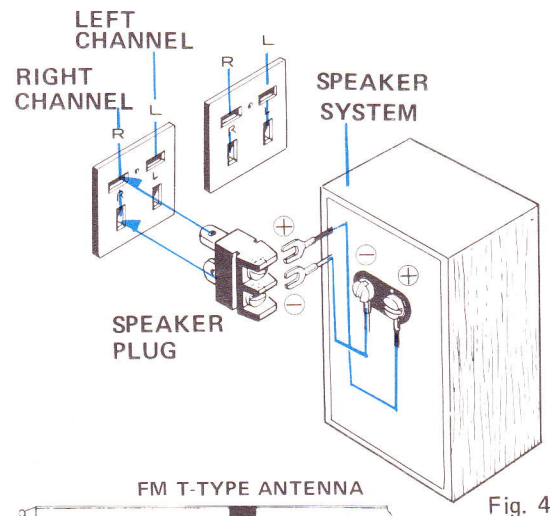

Fig. 4
- As shown in Fig. 4, connect the lead wires of the speaker system to the supplied speaker plugs. Be sure to observe the correct polarity and to cause no short circuit between \oplus and \ominus .
- For the second (third) pair of speakers, use the B (C) speaker sockets. Connect in the same way as for the first pair.